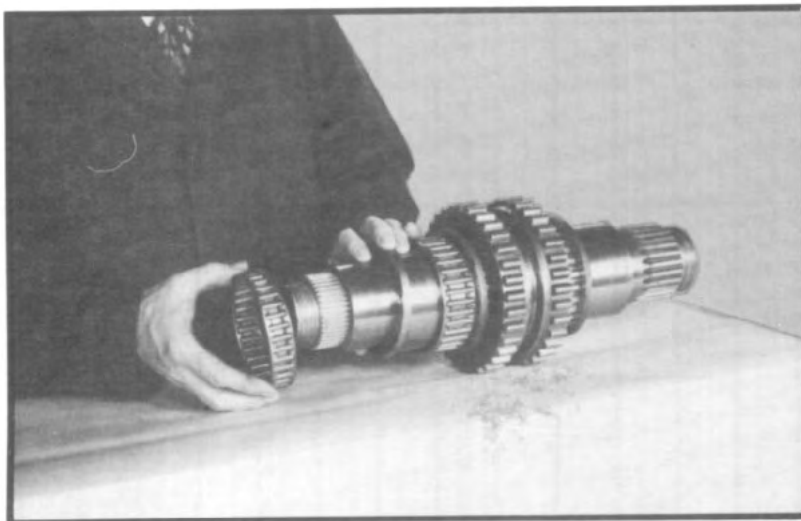

Fig. 140
3.4 Slide the two needle bearing assemblies and spacer ring over the front of the shaft. The wider needle bearing, first; spacer ring, second and narrower needle bearing, last. (See fig. 140.)